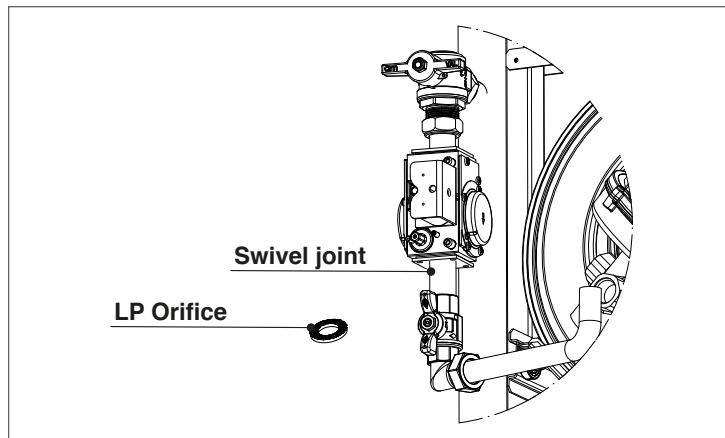

Fig. 12 *Natural Gas to LP Gas Conversion*
- Unscrew the swivel joint indicated in Fig. 12 to separate the valve from the connection pipe with the fan
- Place the provided metal orifice (Fig. 12) between the two gaskets (N° on orifice: 9.5)